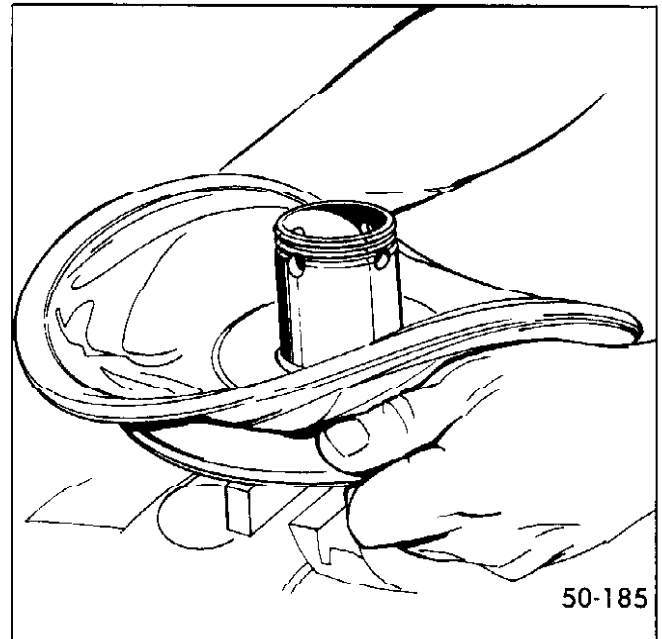

Figure 50-78 Locking or Unlocking Secondary Support Plate and Secondary Power Piston
6. The secondary power piston should still be positioned on tool J-23101. Fold back secondary diaphragm from O.D. of secondary support plate. Grip the edges of the support plate and rotate clockwise to unlock the secondary support plate from the secondary power piston. See Figure 50-78.